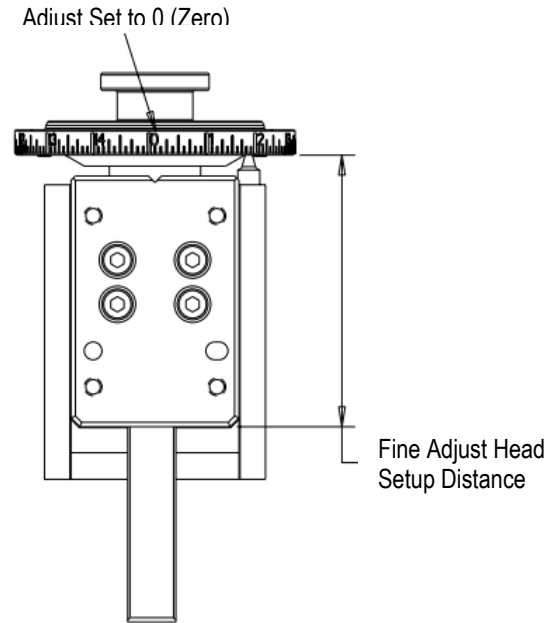

Figure 7
a. Verify the setup dimension to the top of the Crimp Height Adjust Head (see Figure 7).